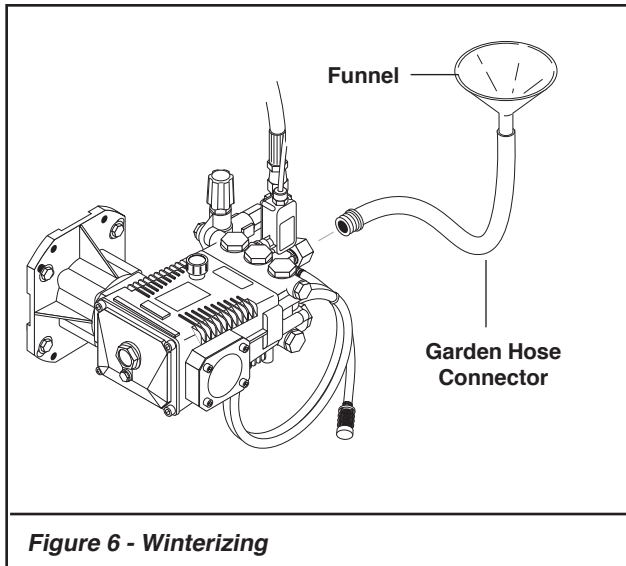

Figure 6 - Winterizing
3. Start the detergent suction by rotating the water adjustment knob of the detergent injector valve. Refer to **Figure 6**. Turning the knob counterclockwise will pull detergent into the system. The flow may be observed through the clear detergent line. Secure the knob position with the knurled nut.
10. Turn the side detergent control knob clockwise (CW) for detergent decrease. Wait for detergent to clear. Always rinse with cold water after using detergent. Rinse from the top to the bottom to prevent detergent from dripping onto a rinsed area. For the best results, contact your Hotsy dealer to help you select the best detergent for your application.
8. Attach a short length of hose (approximately 3 feet long) to the garden hose connector located on the pump. Install a funnel in the other end of the hose as shown in **Figure 6**.